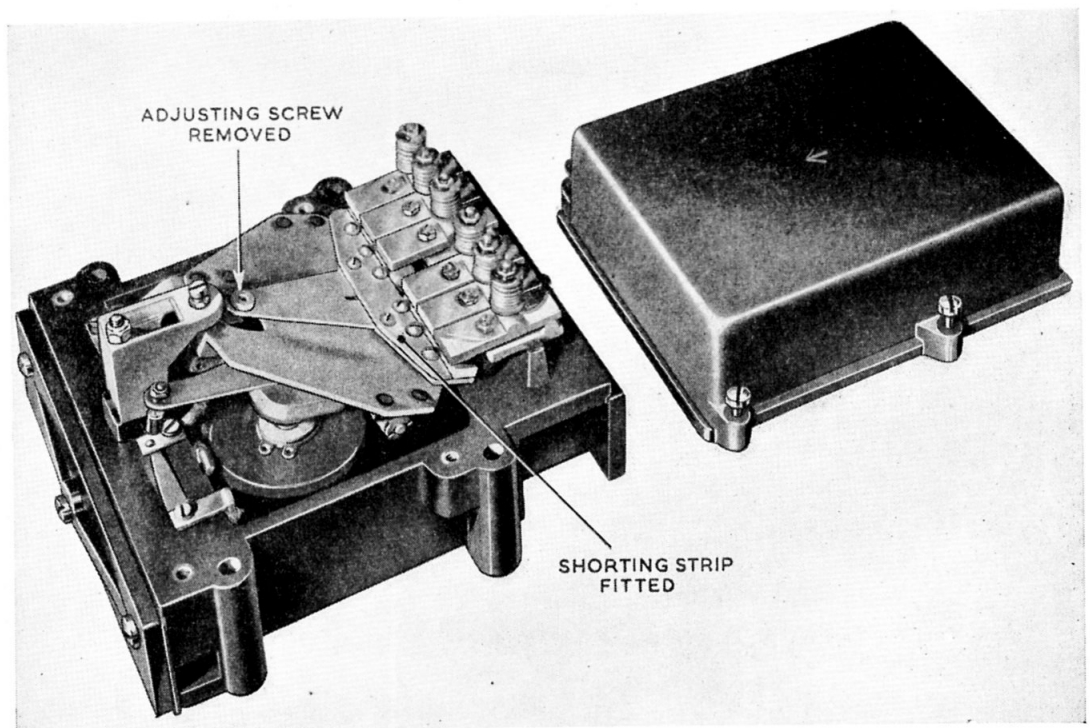

Fig. 1. Magnetic relay switch, Type R
2. In fig. 1 of this chapter can be seen those parts where the circuit breaker has been modified. A shorting strip has been fitted to the bi-metal element, and the adjusting screw on the bi-metal strip, which in the circuit breaker operates the latching mechanism, is removed. The terminals which are used are the main terminals 1 and 2, which are connected to the load, and the auxiliary terminals 4 and 7, which are connected to the supply.